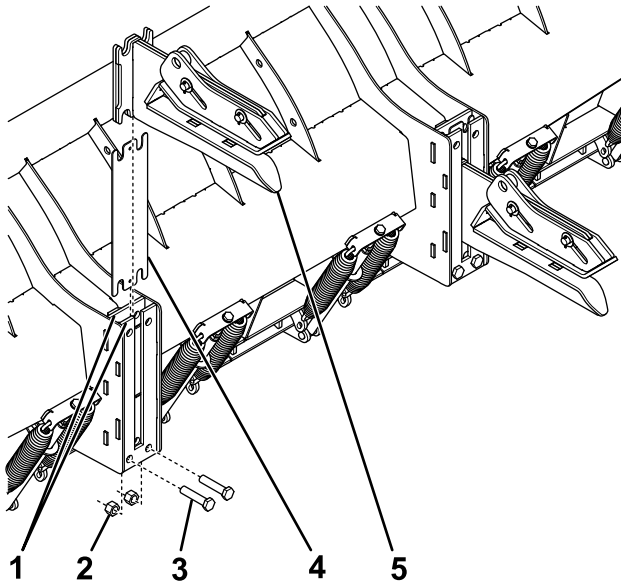

Figure 7
1. Loosely secure 2 bolts (1 inch) and locknuts to the bottom of the hitch plates (Figure 7).
2. Slide the back shim between the hitch plates and slot it over the previously installed bolts (Figure 7).
3. With the back shim pushed to the back, slide the attachment fork between the back shim and the front hitch plate (Figure 7).